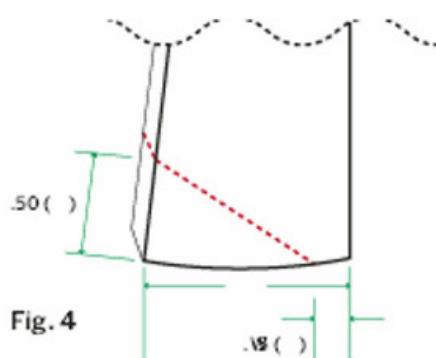

Fig. 4
**1f.** Now you are going to cut one corner from each blade. First, measure the width of the blade (if you are using an 8" diameter PVC pipe as your stock, it should be about 5.75" wide). Call this value  $W$ . Then make a mark along the diagonal edge of the blade, a distance of  $W/2$  from the wide end (3" is good enough if you are using 8" PVC). Make another mark on the wide end of the blade at 15% of  $W$  from the long straight edge (1" with 8" PVC) (see Fig. 4).